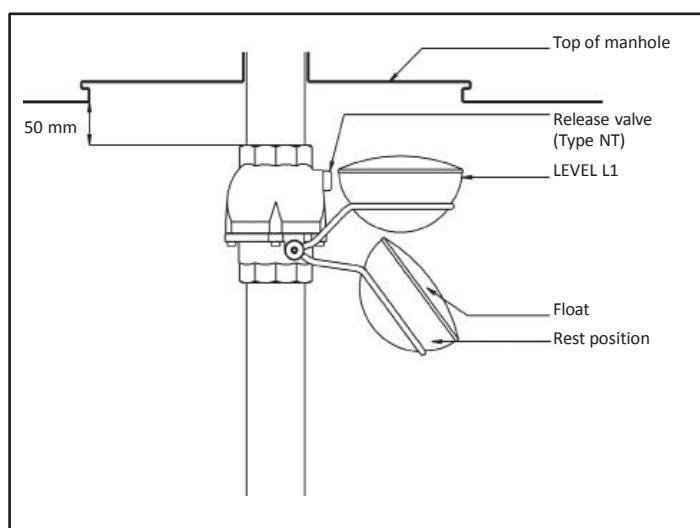

figure 2
- 2: Mount the overfill prevention device on the pipe sleeve under the manhole plate placing the float under the tester. The 50mm minimum distance between the top of the overfill prevention device and the tank generator must be respected in all circumstances. (Figure 2)